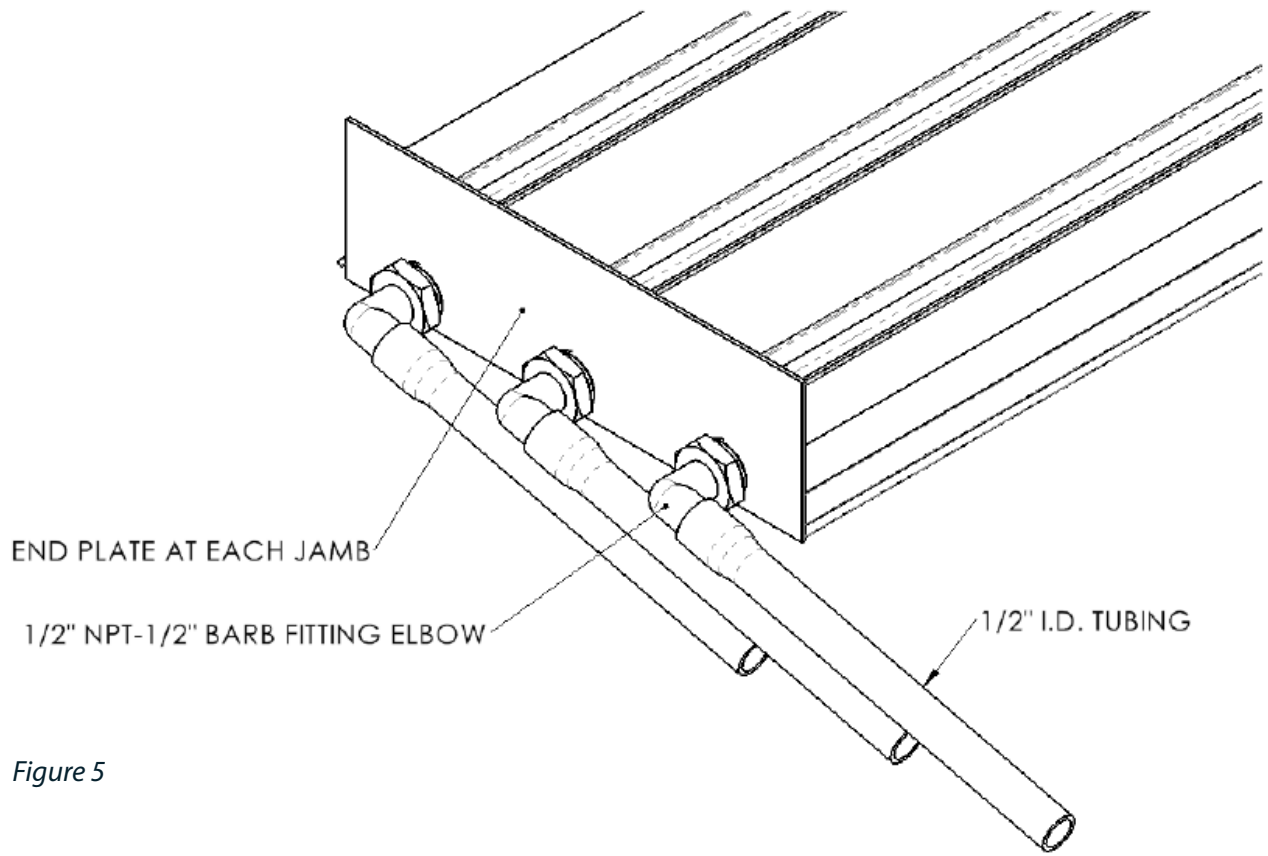

Figure 5
- Side Drain Fitting Sill (See **Figure 5**)
Screw the ½" NPT pipe to ½" hose barb (supplied by others) fittings using tread sealant or Teflon tape to the ends of each track. Push fully the ½" minimum inside diameter hoses onto the barbed fittings and route to an appropriate drainage location, ensuring that the hoses have a continuous downward slope of at least ¼" per foot. See **Figure 5**. Skip to step 10.